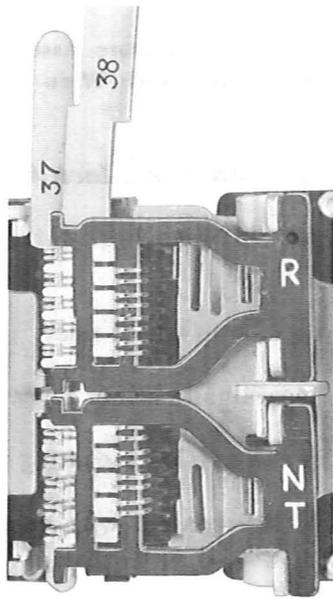

Fig. 8—Detail 38 Comb Lifter in Place With Detail 37 Comb
3.16 With the taper of Detail 38 comb lifter facing to the right, place the groove (on the left side of Detail 38) over the right side of the protruding Detail 37 comb. Holding the comb with the left hand, slowly push the Detail 38 comb lifter down until all movable contact springs are lifted in pair as shown in Fig. 8.